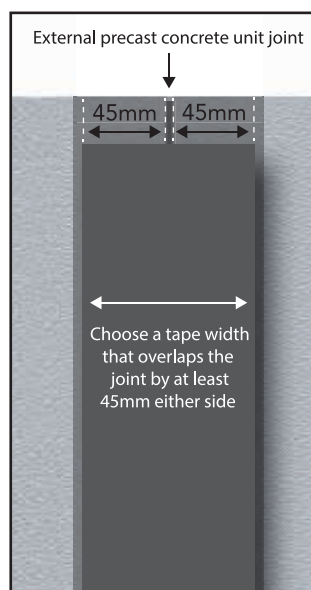

Fig 2.
2. Select the correct width of DENSOSTRIP™ EXTERNAL JOINT SEALING TAPE, making sure that it is wide enough to overlap at least 45mm either side of the joint. **See Fig 2.**